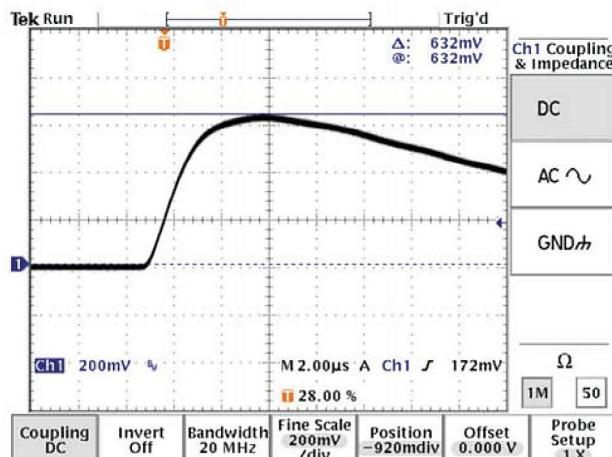

Figure 2
8. Adjust the "time base" of the scope to show a single EnergyMax pulse and then focus on the leading edge to accurately read the peak voltage (see Figure 2).